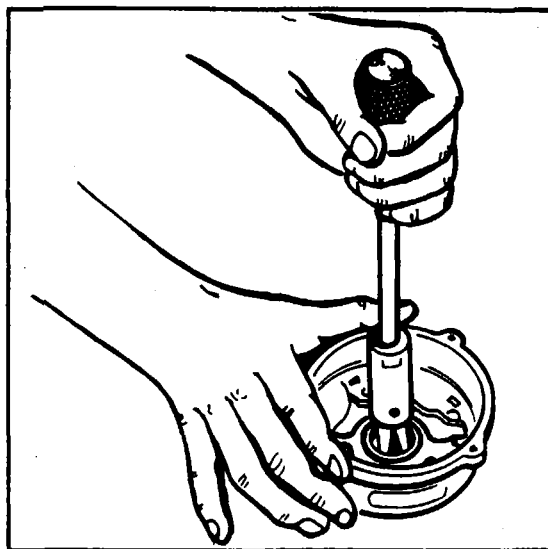

Figure 11-37. Removal of Slip Ring End Bearing
- e. To remove the slip ring end bearing and grease seal, it will be necessary to have a hook type or impact type bearing puller as shown in Figure 11-37. Do not remove the bearing unless replacement is necessary.